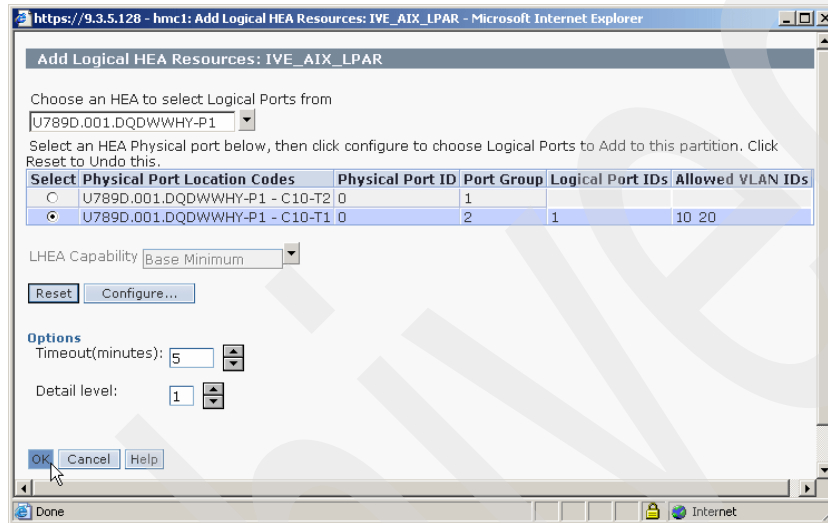

Figure 4-10 Fourth step to add a logical port
- On the new window Add Logical HEA Resources, verify the logical port configuration. Click the **OK** button to complete your dynamic LPAR add operation, as shown in Figure 4-10.